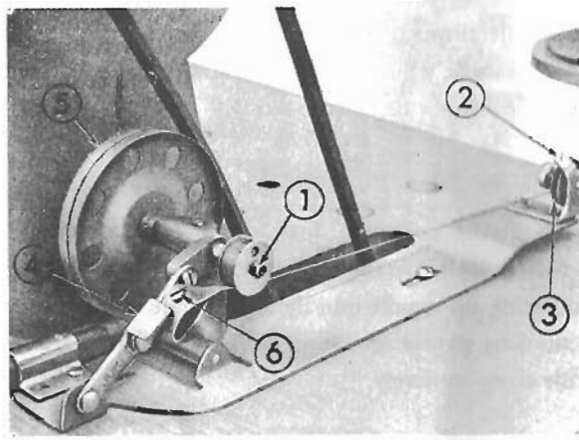

Fig. 8
### 8. How to wind the bobbin (Fig. 8)
Fasten the bobbin winder to the table as shown in Fig. 8. Be sure to fasten the pulley ⑤ so that it will be contacting the belt correctly at the winding position. To wind the bobbin, first, insert the bobbin into the pulley shaft ① as far as it will go. Then, after passing the thread through the eyelet ② of the thread guide on the tension bracket, pass it between the 2 thread tension discs ③ towards you from the back side, then pull out this thread and wind the tip of this thread into the bobbin from under-side several times around. Then, if the trip latch ④ is pressed, it will press down the bobbin and the pulley will contact the belt and with the rotation of the machine, the pulley will also rotate. When sufficient amount of thread is wound, the trip latch will be released and the rotation of the pulley will stop. The amount of wound thread can be regulated by the screw ⑥. This winding process can be performed during the running of the machine.